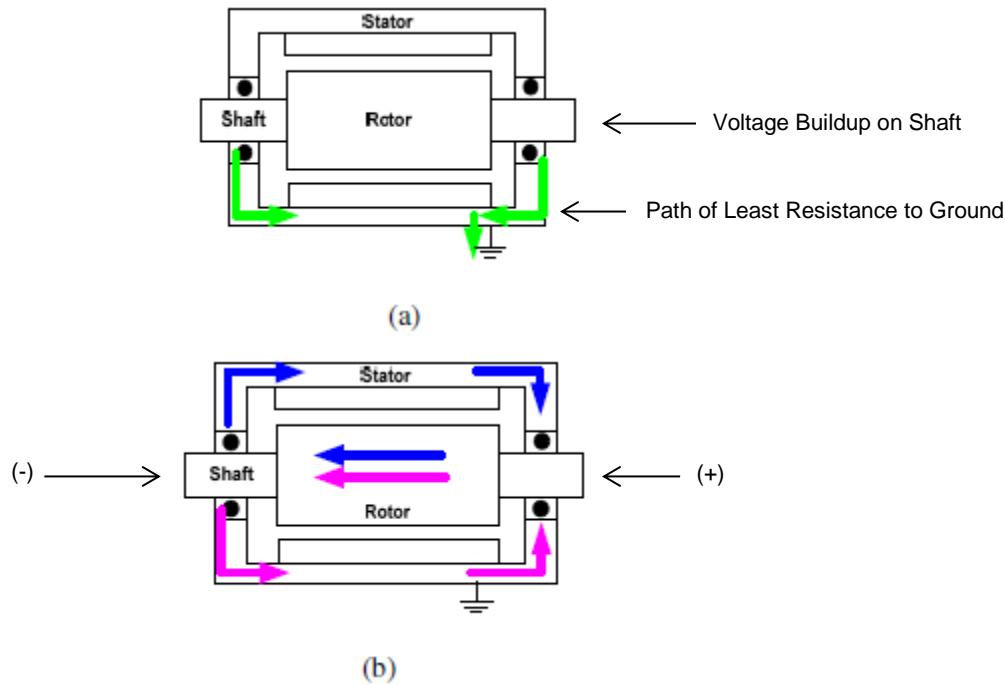

Figure 1. (a) Current Flow from Shaft to Ground(b) Circulating Current Flow in Motor [1]
- 1.) Cause current to flow directly from the shaft, through a bearing, then through the motor or load frame and then into ground as shown in Fig. 1 (a).
- 2.) Cause current to circulate from one side of the shaft, through a bearing, through the motor frame, back into the opposite bearing, and then back into the shaft as shown in Fig. 1 (b).